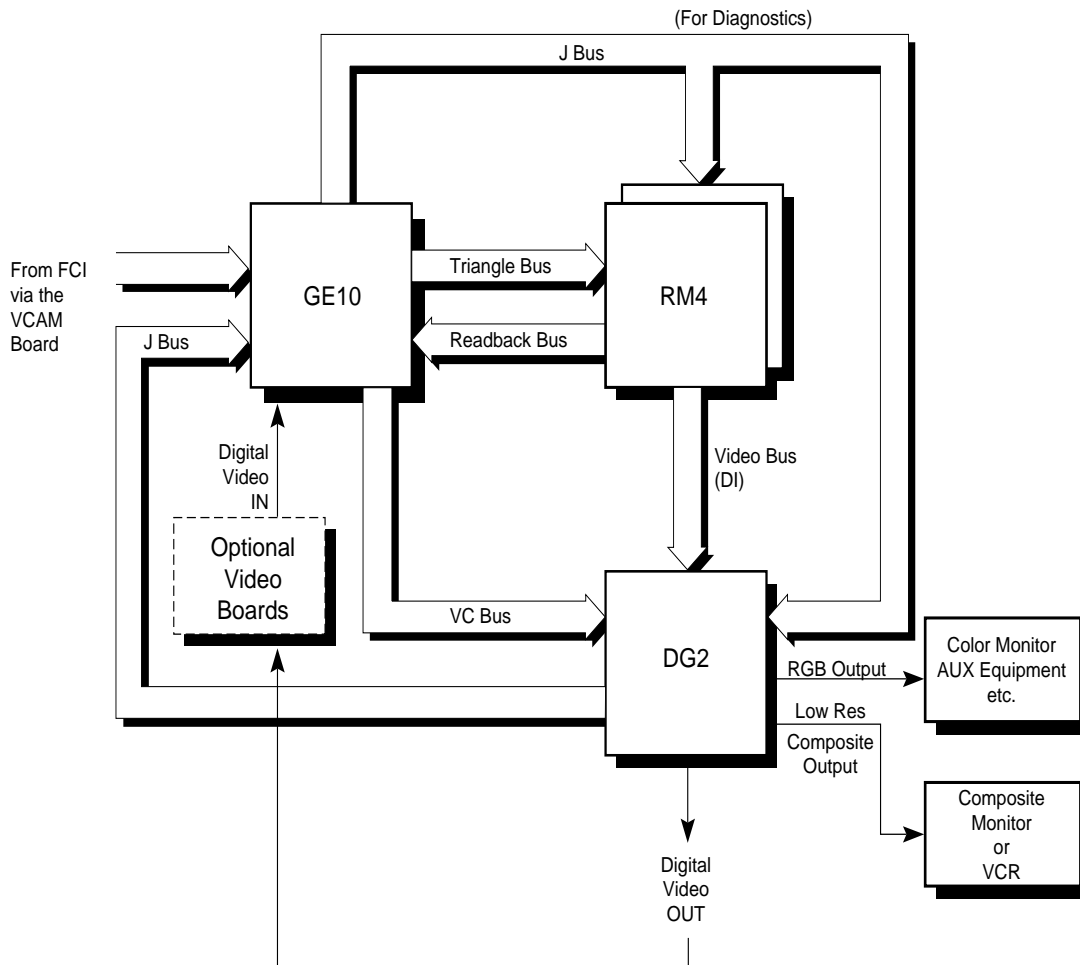

Figure 4-5 RealityEngine² and VTX Graphics Subsystem Functional Block Diagram
The primary board in the subsystem is the GE10. The GE10 interfaces with the host system through a Flat Cable Interface (FCI) connection that ties to the VCAM mezz board on the IO4 base board (see Figure 4-5). The FCI connection is embedded in the backplane of the system.
The GE10 communicates with the RM4(s) over the triangle bus and with the DG2 board over the Video Control (VC) bus. The Video Control bus provides access to the color maps, window display modes, and cursor control modes. Communication between the RM4(s) and the DG2 board is over the video bus. Figure 4-5 shows a block diagram of the RealityEngine² and VTX board set.